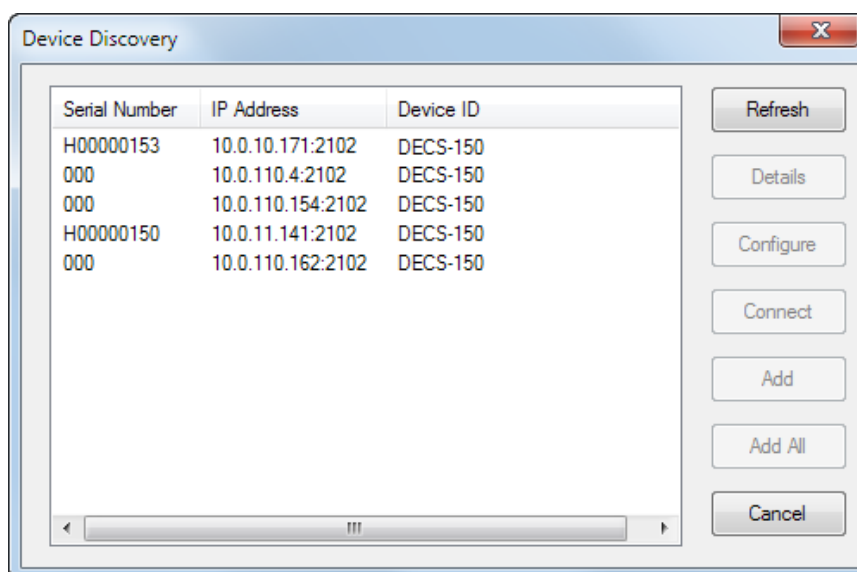

Figure 111. Device Discovery Window
5. If you don't know the IP address, you can perform a scan to search for all connected devices by clicking the Ethernet button in the Device Discovery box. After the scan is complete, a window containing the connected devices will be displayed. See Figure 111.